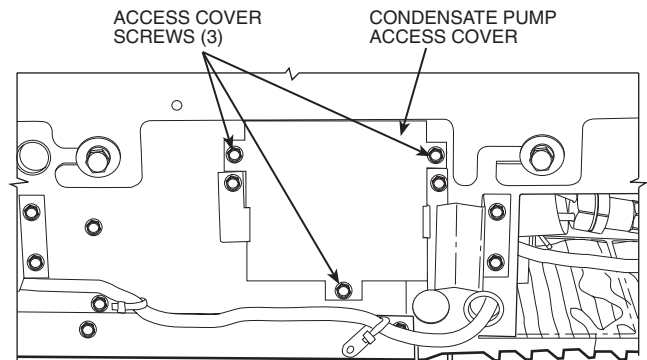

Fig. 1 — Condensate Pump Access Cover
3. Locate condensate pump access cover and remove the 3 mounting screws as shown in Fig. 1. Save cover and screws.
8. Reinstall condensate pump access cover using the screws removed in Step 3 (Fig. 1).